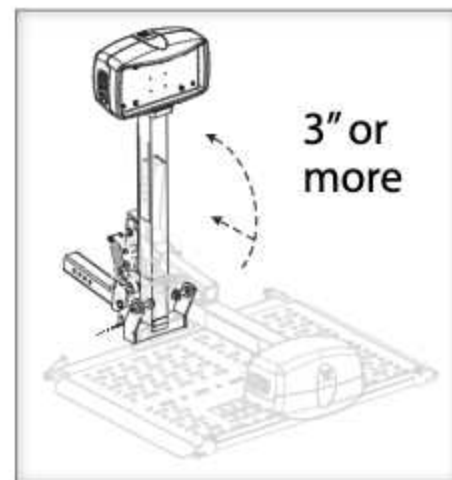

Figure 16-3
5. When extended 3" or more flip up to vertical. [Figure 16-3]